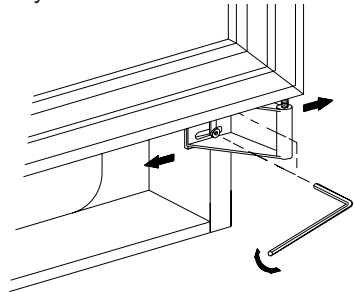

Fig. 2
See fig. 2
2. The top hinge is dismounted. See fig. 2.